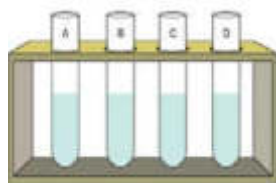

Fig. 1: Test tubes containing soap solutions in distilled water and sample water.
6. Pour 1 mL of the soap solution prepared above, in each of the test tubes (Fig.1).